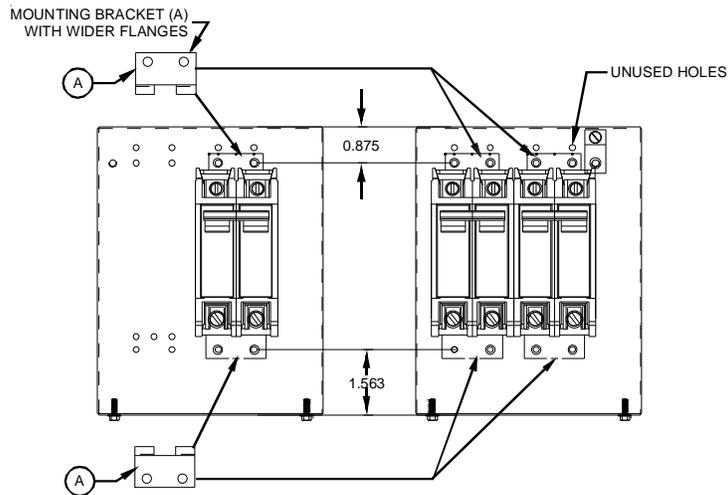

Figure 1
These kits contain the following parts: Siemens Circuit Breakers, Mounting Bracket and Installation Instructions. See Figures 1 and 2 for mounting bracket instructions.
5. If G.E. circuit breakers are being replaced with a Siemens Circuit Breaker, remove both the top and bottom (A) mounting brackets by removing the two # 10x $\frac{1}{2}$ " screws per mounting bracket that secure them to the mounting plate. G.E. breakers located per Figure 1.